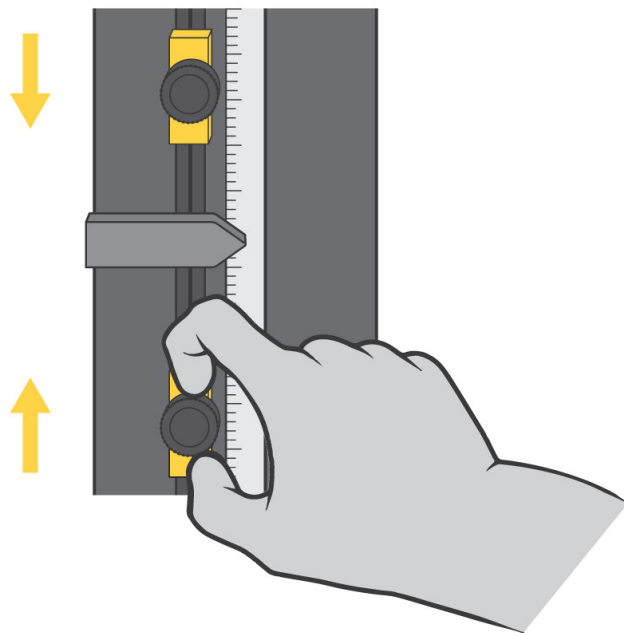

Figure 18. Setting Limit Stops
The crosshead limit stops are two adjustable blocks mounted on the limit switch rod, which is located inside the column of the machine, as shown in Figure 18 on page 102. Limit stops (1 and 2) have thumbscrews that you tighten and release by hand, and you can move them to any position on the limit rod. Position these stops just beyond the test parameters to prevent crosshead over-travel. When the crosshead reaches the maximum pre-set travel, the limit switch actuator (3) contacts one of these stops. Contact between the limit actuator and the limit stop moves the limit switch rod (4) and activates the limit switches. This stops crosshead motion.